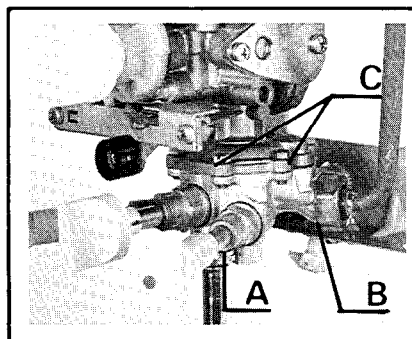

Fig. 6
## 9) Diaphragm (fig. 6).
- Remove the governor situated in the base of the water section A (fig. 6).